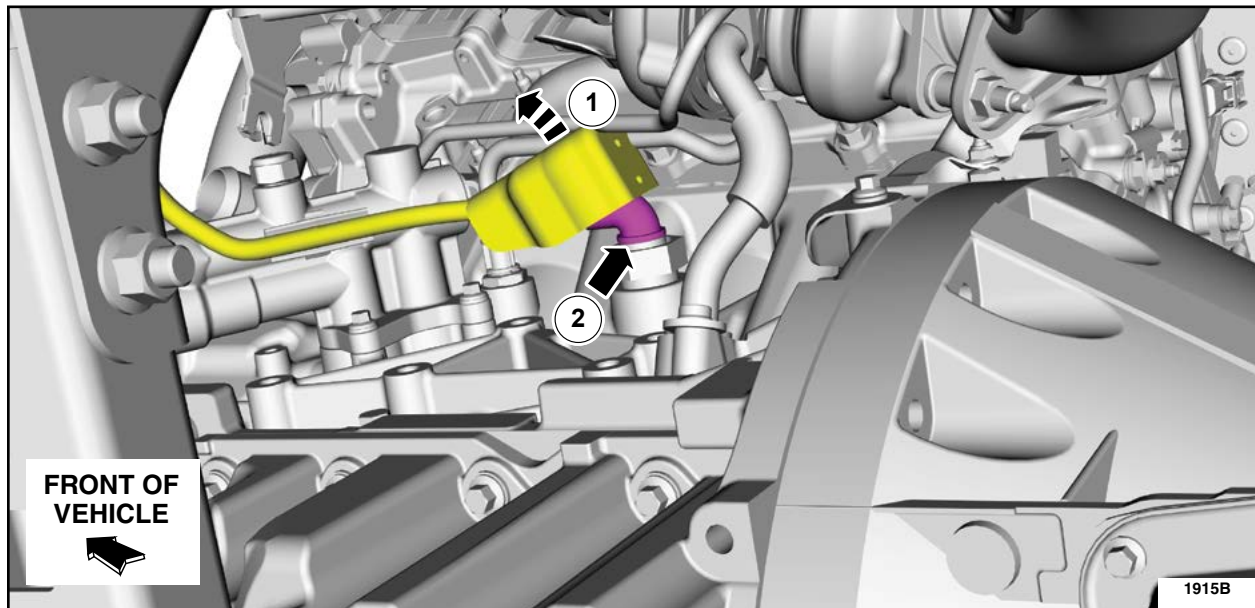

FIGURE 5
3. Remove the left hand (LH) front fender splash shield. Please follow Workshop Manual (WSM) procedures in Section 501-02.
5. Disconnect the block heater electrical connector. Figure 5.
27. Connect the block heater electrical connector and position the heat shield back over the block heater connector. See Figure 5.